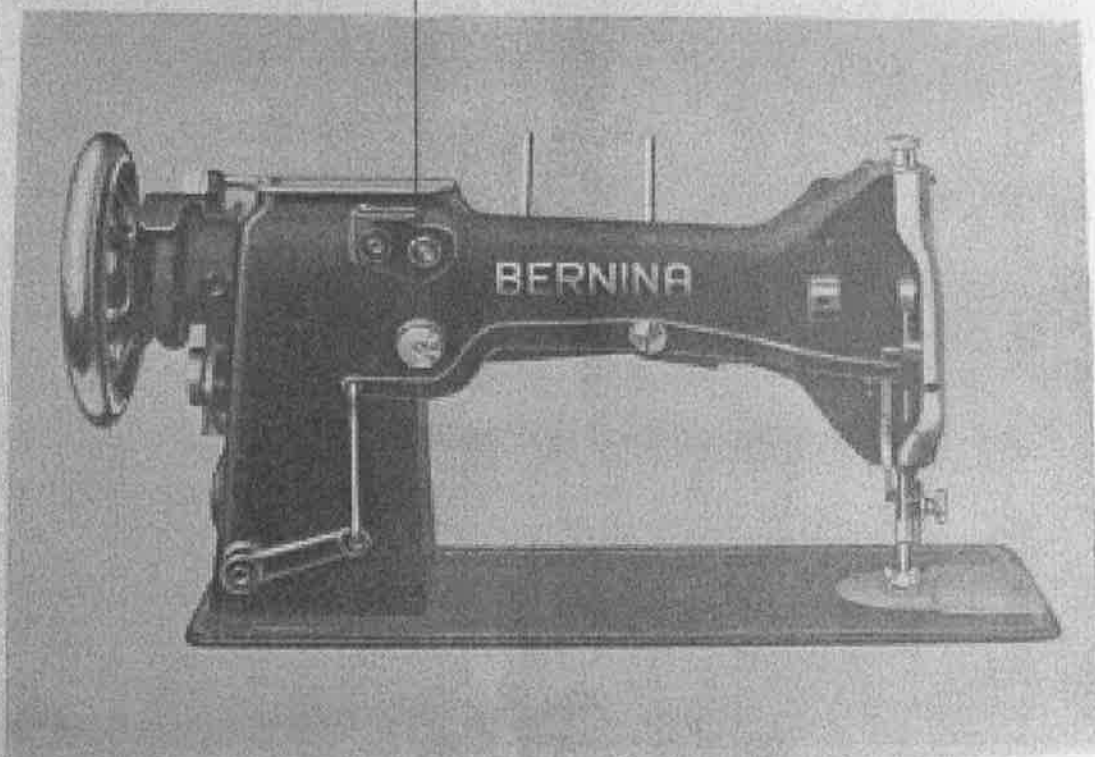

Fig. 19
7. Needle should start exactly from central position of the stitch-hole (Fig. 19).
6. Needle should start exactly from central position of the stitch-hole (fig. 19).
(Needle should start exactly from central position, Fig. 19.)
These ornamental zigzag stitches have been executed with needle stitch beginning from the left (fig. 19 and 21), applying the embroidery presser foot, marked with 1 red stripe.
[Needle starts from the left of the stitch-hole, fig. 19 and 21]
(Needle starts from the left of the stitch-hole, fig. 19 and 21)